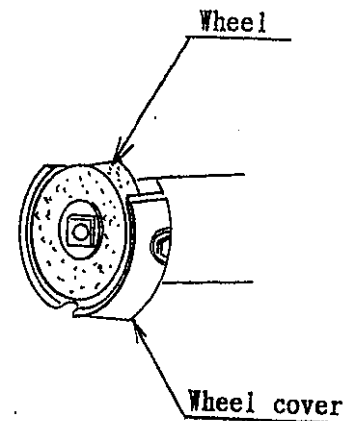

Fig. 14
- Attach the opening of the wheel cover upward. (As shown in Fig. 14)